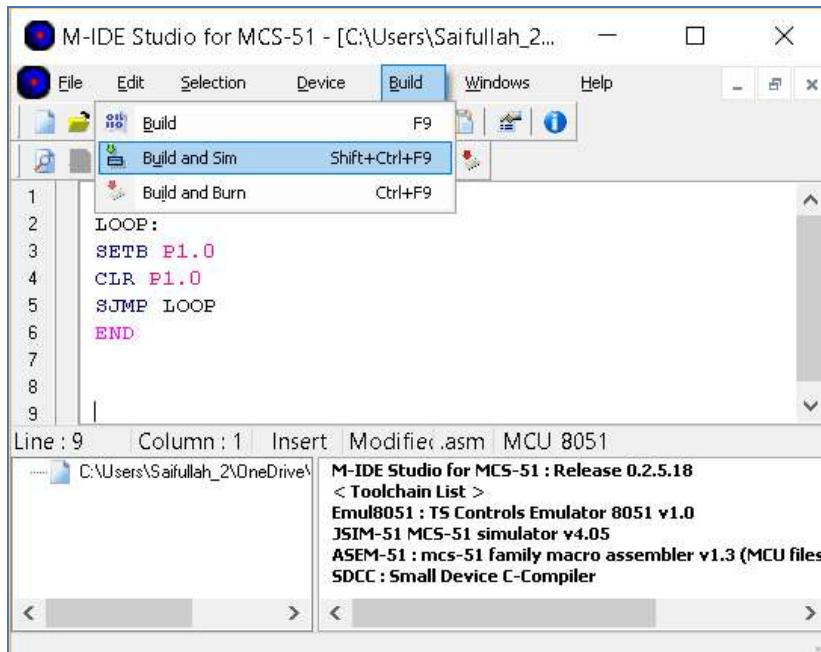

Figure 3.8: Building and Simulating the Code in MIDE-51
- c. Save the file as **EXP3.asm**. Then build and simulate as shown in Figure 3.8. This will generate **EXP3.hex** file.